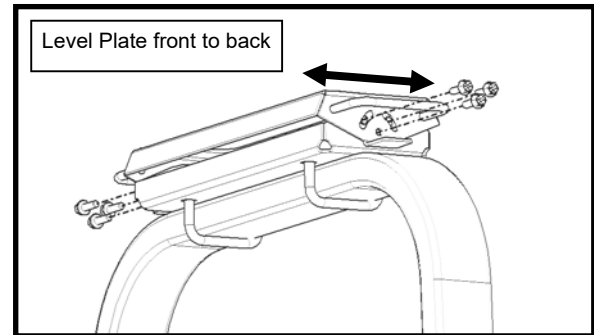

Fig. 3 (Attach Striker Plate)
3. See fig. 3. Attach the Striker Plate to the ROPS Plate using the supplied 1" long 5/16-18 screws. Take care not to cross thread the weld nuts. Use a level to set desired plate angle, then tighten screws. Tighten to 22 ft.-lbs.